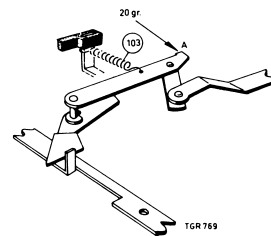

Fig. 11
In stop position, the toggle-lever spring pos. 103, should still have a residual force of at least 20 gr., measured at point A. Replace the spring if less than 20 gr., Fig. 11.